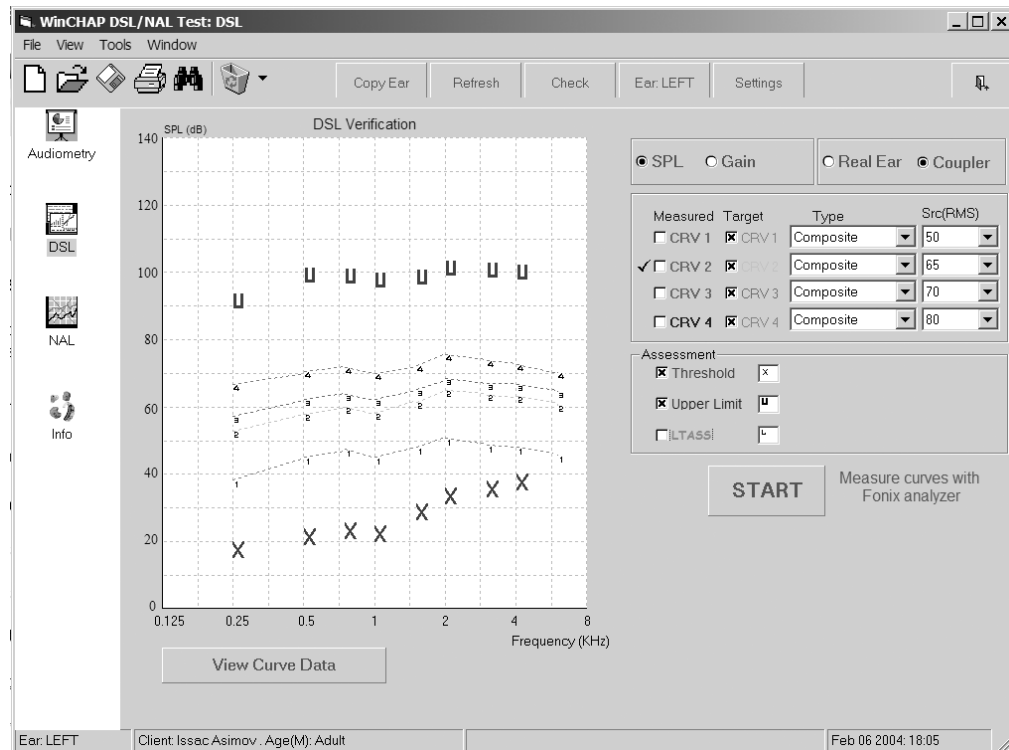

Figure 6.3—DSL Measurement window
There are two ways to verify that the hearing aid meets the DSL prescription: through coupler measurements and through real-ear measurements. In the DSL window, you can view the coupler and real-ear targets in dB GAIN or dB SPL. When displaying in dB SPL, you can also view the patient's thresholds, upper limits, and the LTASS. Coupler and real-ear measurements can be performed and compared to the displayed targets. See Figure 6.3.
8. Click **Back** to close the Settings window. If you haven't already, click **DSL** in the left column of the window to enter the DSL Verification window. See Figure 6.3.